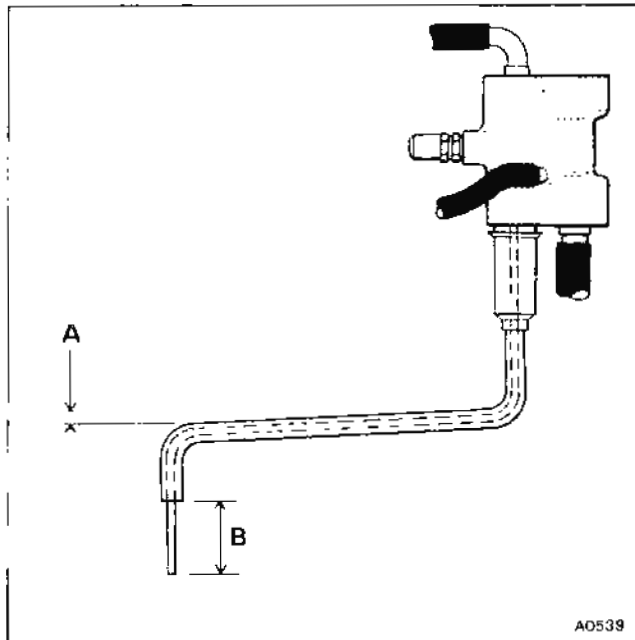

Fig. 2
On earlier cars built prior to an approximate VIN of *SCAZN42A7ECX08488* it is necessary to fit an 'anti-airlock' nylon tube into the weakener reservoir drain pipe (see fig. 2). Later cars already have this tube fitted.
The tube ensures that should any fuel form in the reservoir, it can drain harmlessly away without creating an air lock. It is important that the vapour drain pipe should point slightly downwards (see fig. 2). This also helps reduce any tendency for the fuel to airlock in the pipe.
4. Push the nylon tubing from the reservoir end of the pipe until the end is flush with the top of the reservoir. Approximately 25,4 mm (1 in) should protrude through the other end of the pipe. Do not cut off this piece of tubing (see fig. 2).
6. Refit the complete carburettor assembly ensuring that the reservoir drain pipe is sloping slightly downwards (see fig. 2).